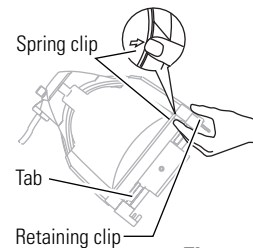

Figure 3
4. Position the lens rotation ring with the spring clip located at the top of the unit, directly below the retaining clip (**Figure 3**).